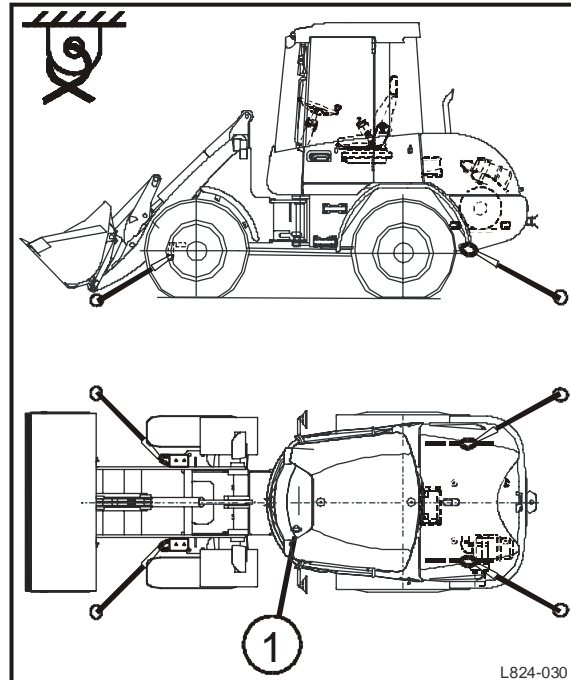

Fig. 30-Lashing for transport
- Attach the machine at the points illustrated (Fig. 30) in the correct manner.